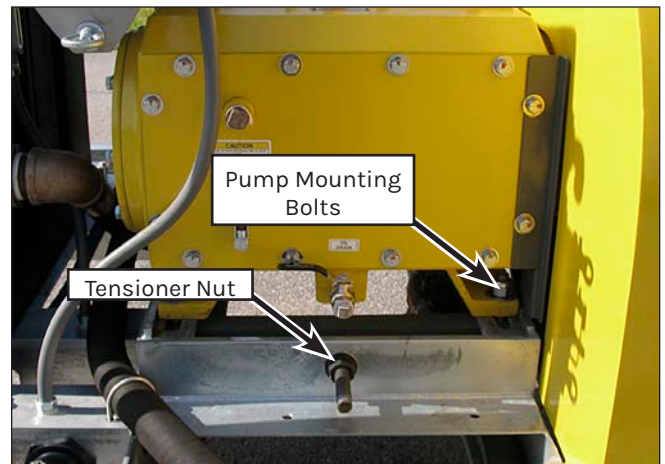

Figure 139: Adjustment Hardware.
1. Loosen the four pump mounting bolts (Figure 139). the bolts are located on each corner of the pump.
3. Loosen the four pump mounting bolts (Figure 139).